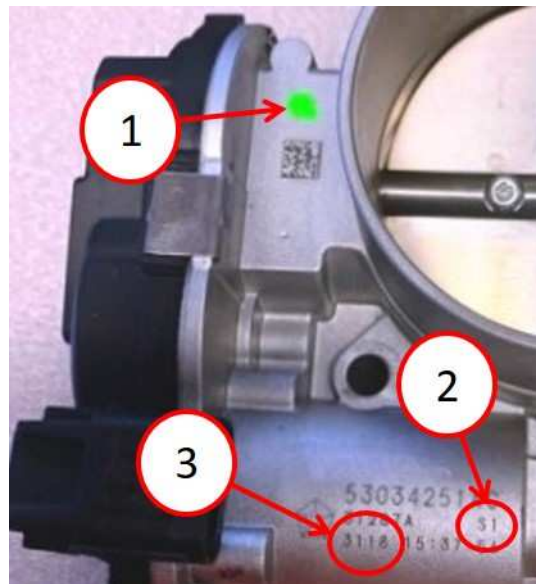

Fig. 1
1. **\*\*Inspect the throttle body assembly for an "S1" or "S2" (Fig. 1) .**
2. Is there an **“S1” or “S2”** marked on the housing (Fig. 1) ?
3. Inspect the Julian date on the throttle body assembly (Fig. 1) .
4. Referencing the figure above, is the four digit stamped Julian date on the front of the throttle body **on or between 2419 - 2549** (Fig. 1) ?
5. Is there a **green dot near the bar code also marked on the housing** (Fig. 1) ?